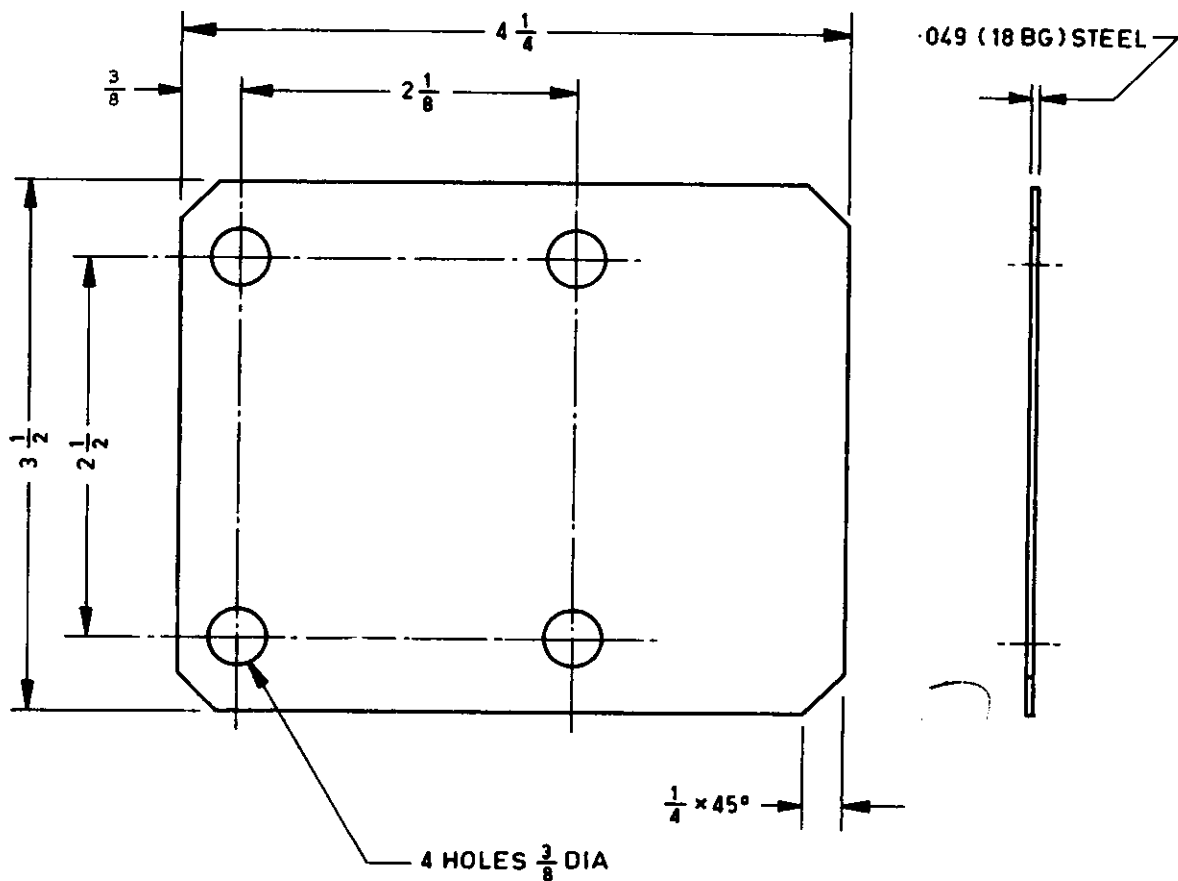

FIG. 7 - DETAIL OF HOIST CONTROL LEVER ORIFICE BLANKING PLATE
64. Manufacture the blanking plate to cover the hoist control lever orifice in accordance with fig 7 and bolt into place.